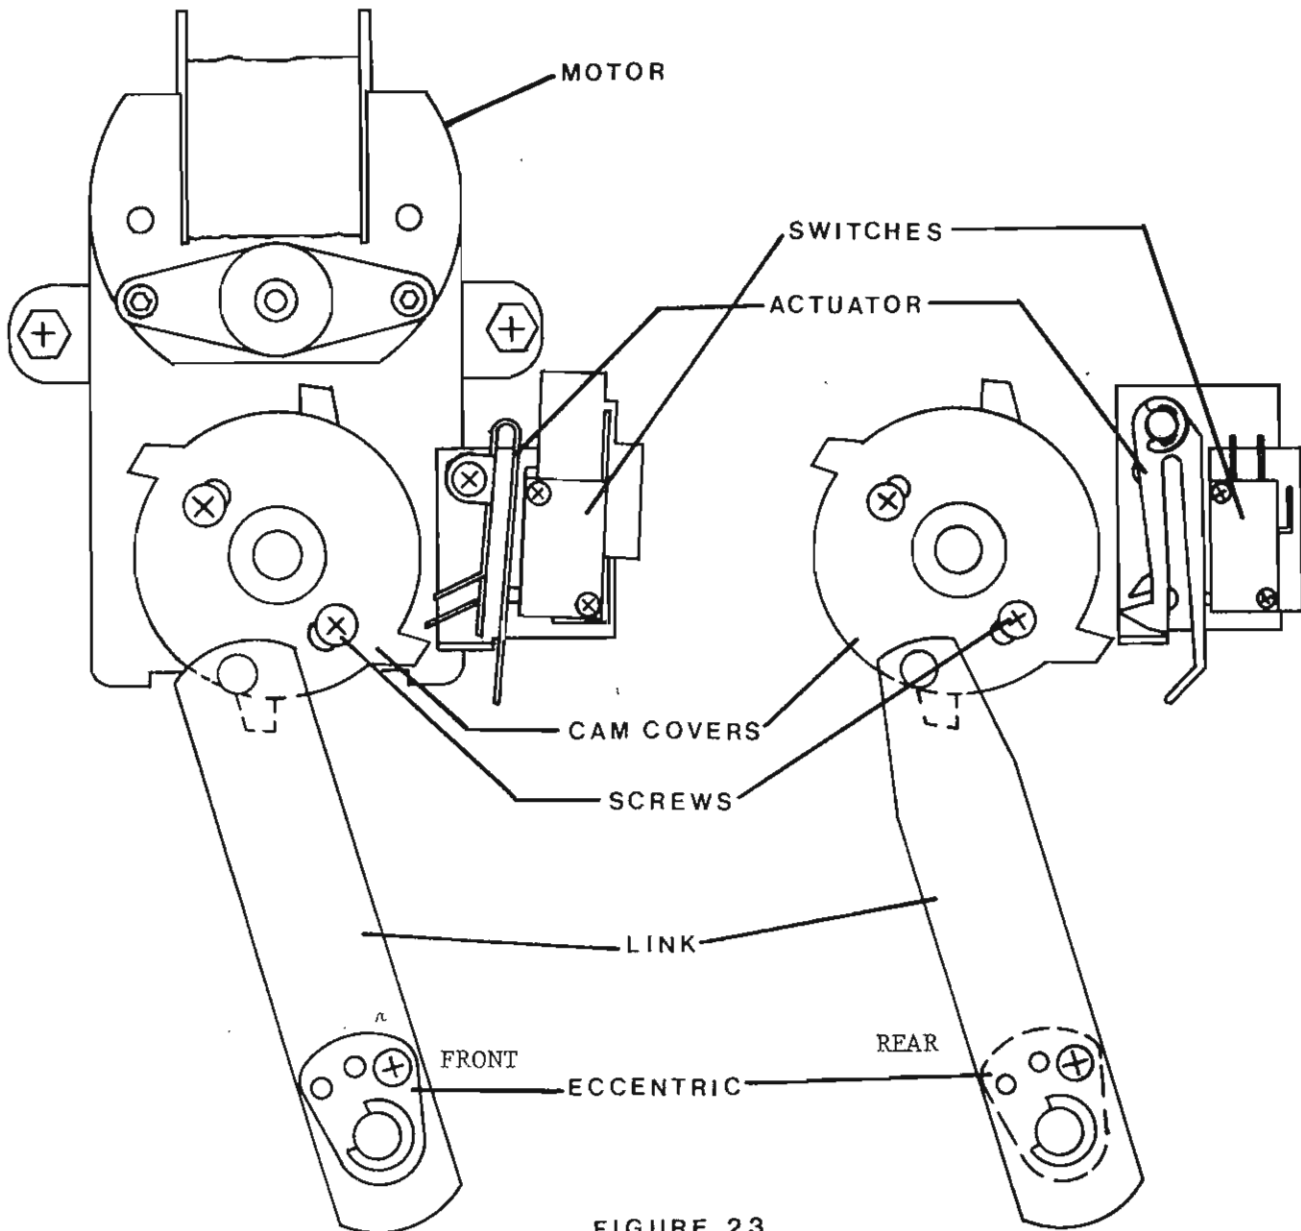

FIGURE 23
1. Remove all existing secondary cam's (Replace existing tapping screws to maintain main cam cover. (See Fig.23)